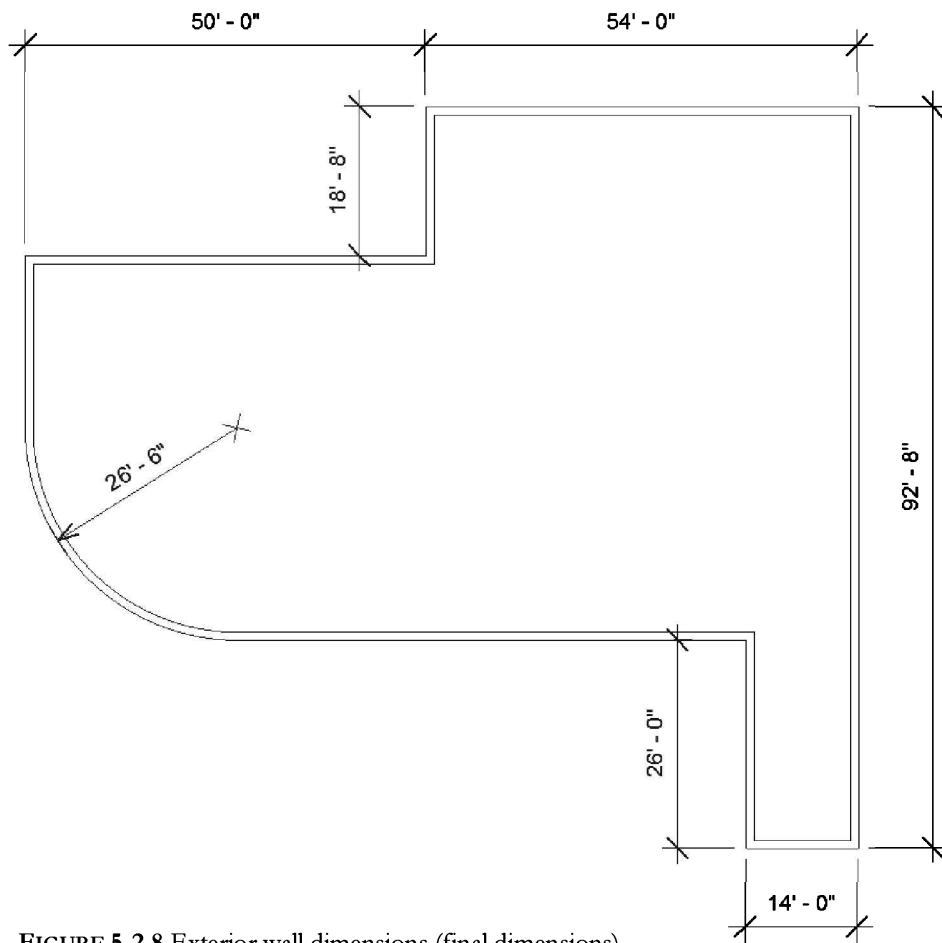

FIGURE 5-2.8 Exterior wall dimensions (final dimensions)
16. Modify wall locations by selecting a wall and modifying the temporary dimensions; the selected wall is the one that moves to match Figure 5-2.8; do not draw the dimensions at this time.